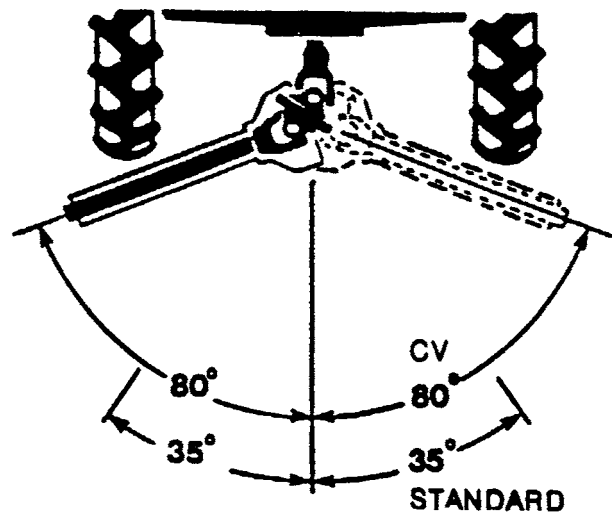

Figure 16 Driveline Angles
4. Although the driveline may be equipped with an optional constant velocity (CV) joint, turning angles are limited. (See Figure 16.) Do not exceed the working angles. Turn off the machine when making sharp turns.
The front universal is equipped with a constant velocity (CV) joint to allow for turning. Although the CV joint allows for sharper turns than a regular drive-line, it does have some limitations. Refer to Figure 16.